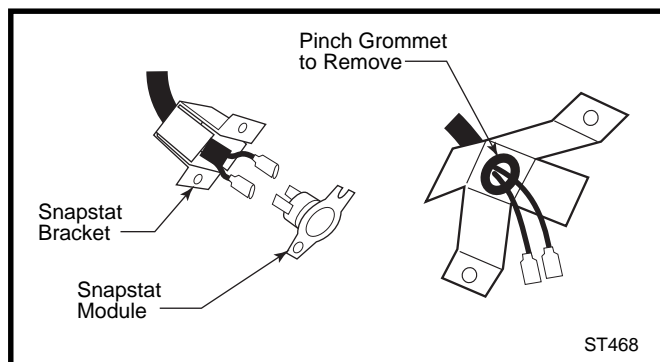

Fig. 10 Remove snapstat and grommet from bracket.
2. Disconnect the snapstat module from the leads inside the snapstat bracket. (Fig. 10)